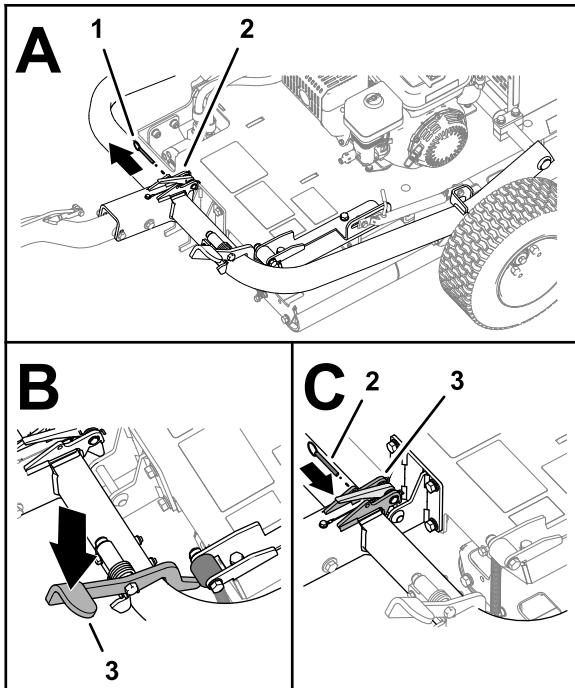

Figure 8
6. If installed, remove the locking pin from the latch (Figure 8).
- 7. Step on the hitch pedal until the hitch locks into place (Figure 8).
- 8. Insert the locking pin through the holes in the latch (Figure 8).